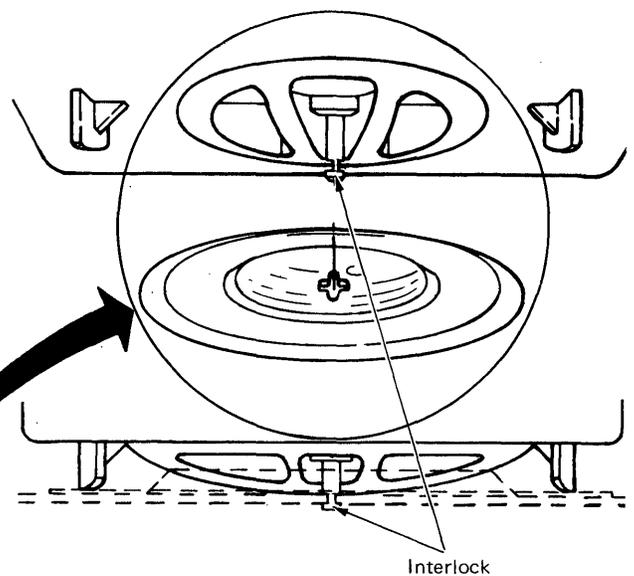

Figure 4-18. Large Display Module Interlock
5. Lift the display module up to release the interlock. (See Figure 4-18.)